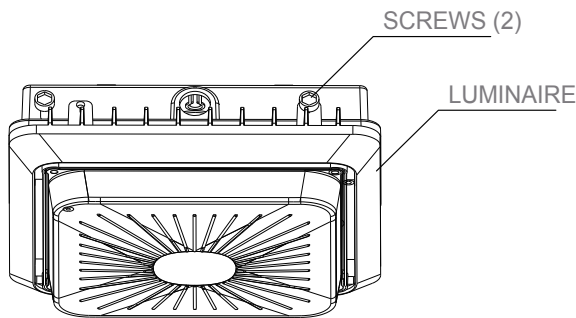

Figure 1
1. Remove Screws (2) and open the Junction Box. See Figure 1 and 2.